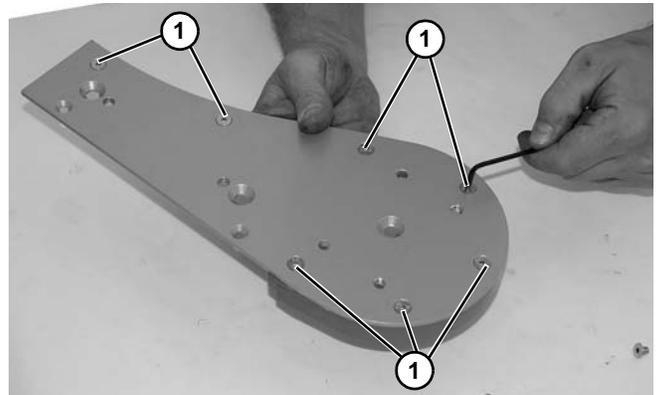

Figure 136
1. Remove seven (7) socket head screws (Figure 136, item 1) from idler head plate assembly.